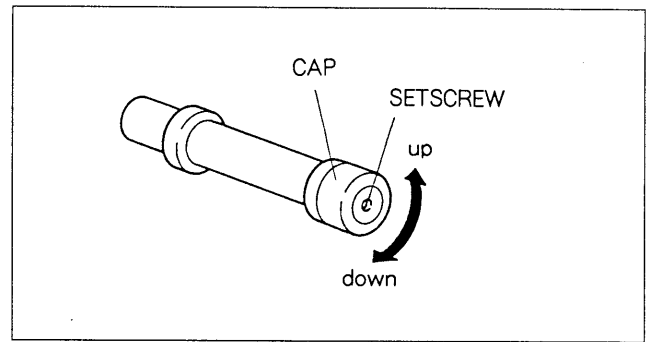

Fig. 9-3-7. Guide Post 2 Height Adjustment
4. Guide Post 2 Height Adjustment (See Fig. 9-3-7.)